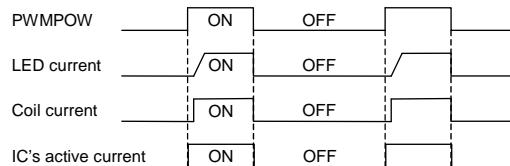

Fig.31 PWMPOW sequence
2) Power control PWM control is controlled by providing PWM signal to PWMPOW, as it is shown Fig.31. The current setting set up with PWMDRV logic is chosen as the H section and the current is off as the L section. Therefore, the average LED current is increasing in proportion to duty cycle of PWMPOW signal. This method is, because IC can be power-off at off-time, the consumption current can be suppress, and the high efficiency can be available, so it makes it possible to brightness control until 50 μ s (MIN1% at 200Hz). And, don't use for the brightness control, because effect of power ON/OFF time changeover is big under 50 μ s ON time and under 50 μ s OFF time. Typical PWM frequency is 100Hz~1kHz.